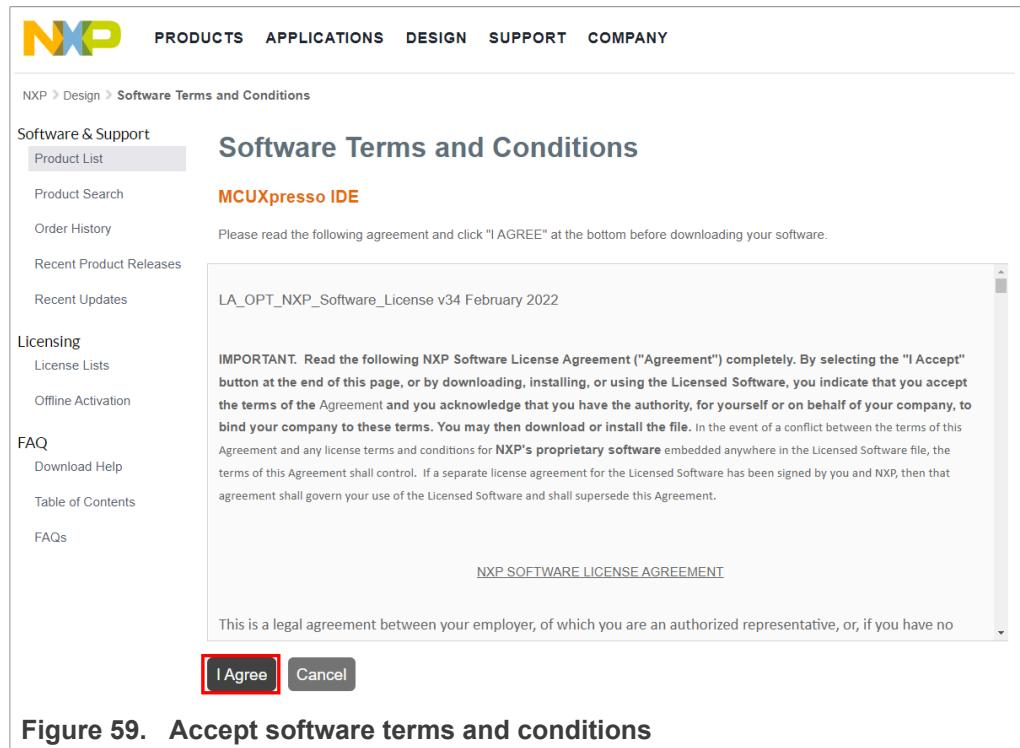

Figure 59. Accept software terms and conditions
- Accept software terms and conditions as shown in Figure 59: